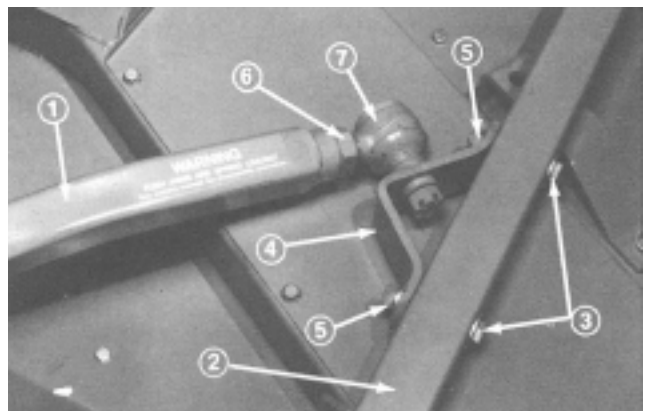

Figure 11
5. Secure ball joint mount to caster arm (Fig. 11) with two capscrews (7/16 – 14 x 3”), flatwasher (15/32 I.D. x 59/64 in. O.D.), and nuts (7/16 – 14). Head of capscrew and the large flatwasher must be outside of caster arm.
6. Tighten large jam nut against front of right push arm (Fig. 11). When tightening jam nut, hold ball joint straight to permit proper oscillation during raising and lowering of the cutting unit.